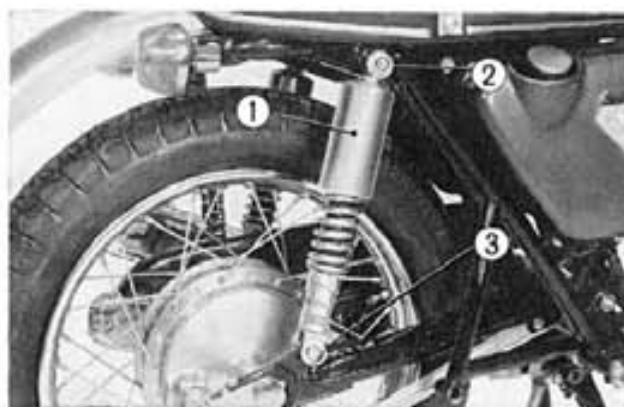

Fig. 12-2 ① Rear cushion ② Cap nut ③ Setting bolt
1. Unscrew the rear cushion cap nut and bolt, and remove the rear cushion from the frame. (Fig. 12-2)